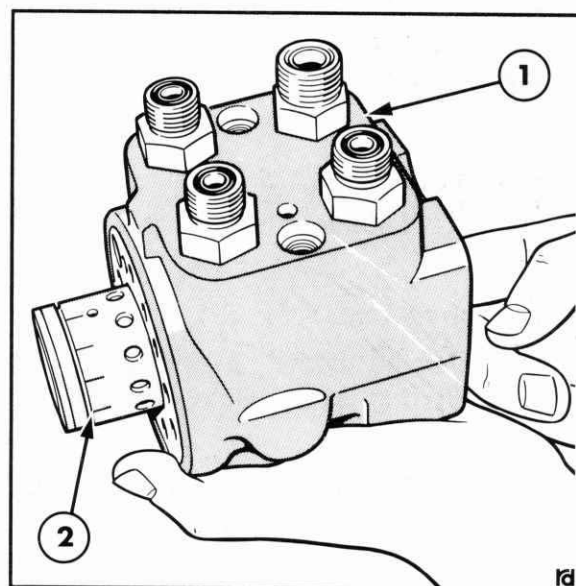

Figure 7-29
8. Remove the inner and outer valve sleeves complete with bearing race, needle bearing, and thrust washer by pressing the assembly out of the housing, Figure 7-29.